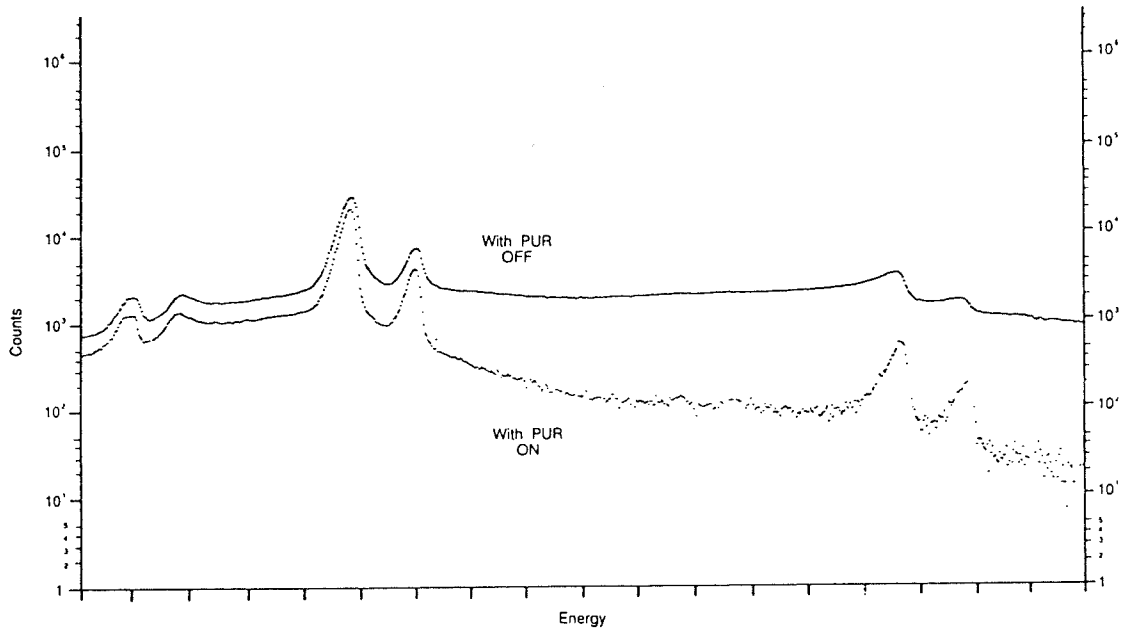

Figure 5.2 ^{57}Co at 50 kcps and 4 μs Shaping
- g. Accumulate a spectrum with the Model 2025 PUR ON/OFF switch OFF. Enable the MCA's OVERLAP function and compare the first half of the memory (PUR ON) to that of the second half (PUR OFF), see Figure 5.2.